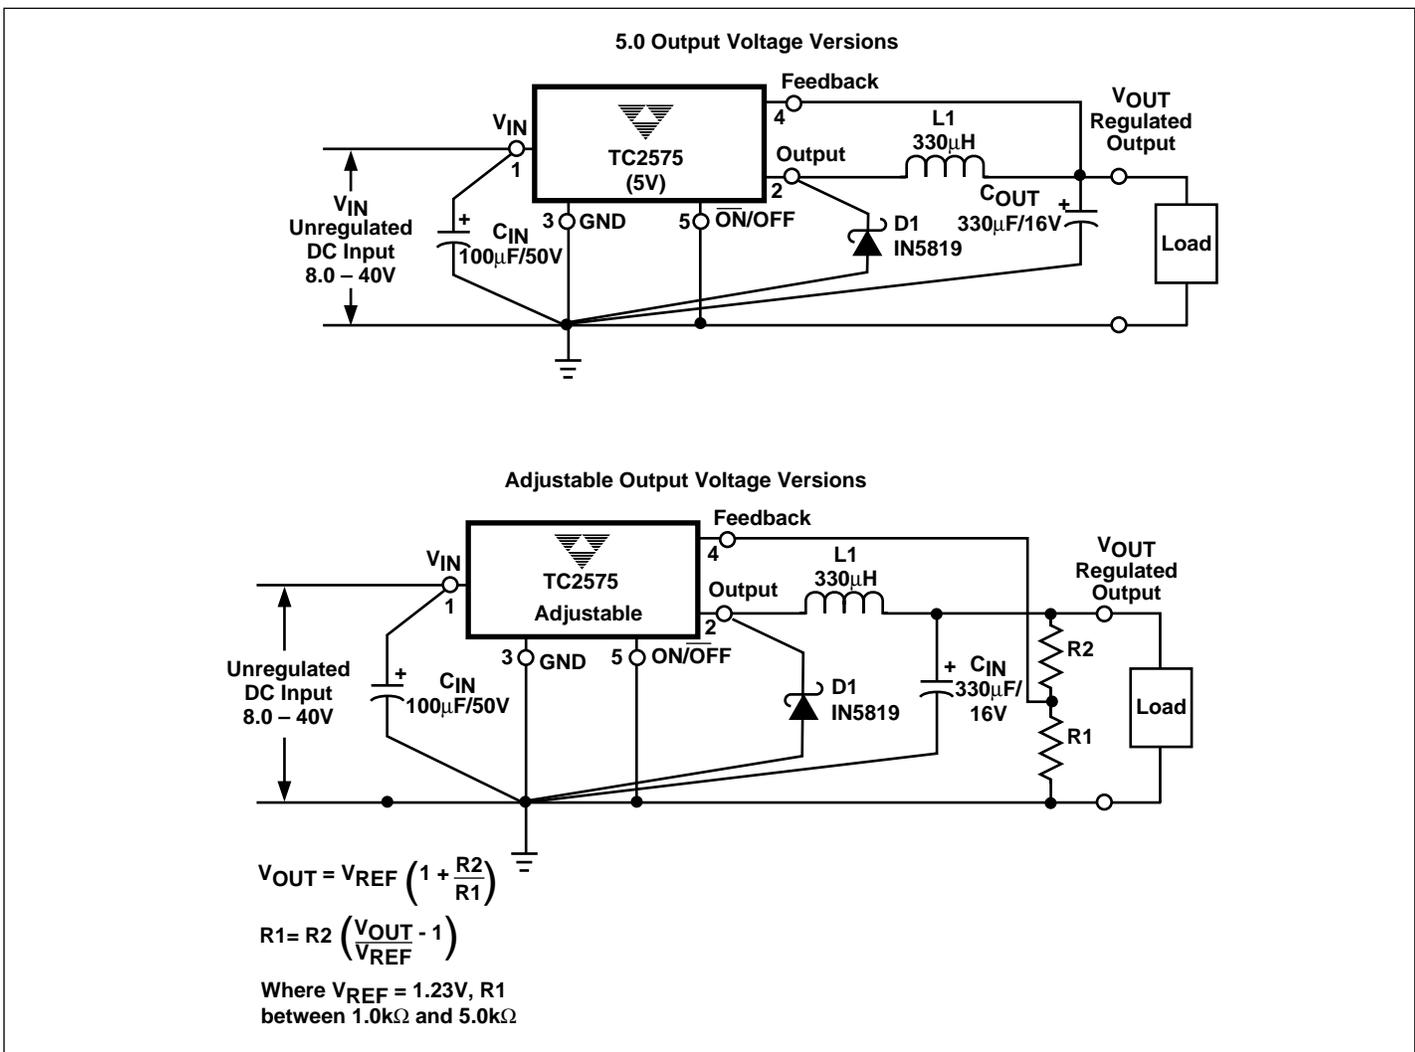

Figure 2. Typical Test Circuit
TC2575-3.3 [(Note 1) Test Circuit Figure 2]
TC2575-5 [(Note 1) Test Circuit Figure 2]
TC2575-12 [(Note 1) Test Circuit Figure 2]
TC2575-Adjustable Version [(Note 1) Test Circuit Figure 2]
- NOTES:** 1. External components such as the catch diode, inductor, input and output capacitors can affect the switching regulator system performance. When the TC2575 is used as shown in the Figure 2 test circuit, the system performance will be as shown in the system parameters section of the Electrical Characteristics.
As in any switching regulator, the layout of the printed circuit board is very important. Rapidly switching currents associated with wiring inductance, stray capacitance and parasitic inductance of the printed circuit board traces can generate voltage transients which can generate electromagnetic interferences (EMI) and affect the desired operation. As indicated in the Figure 2, to minimize inductance and ground loops, the length of the leads indicated by heavy lines should be kept as short as possible.
<p>1. Programming Output Voltage</p> <p>To select the right programming resistor R1 and R2 value (see Figure 2) use the following formula:</p> $V_{OUT} = V_{REF} \left( 1.0 + \frac{R2}{R1} \right) \text{ where } V_{REF} = 1.23V$ <p>Resistor R1 can be between 1.0kΩ and 5.0kΩ. (For best temperature coefficient and stability with time, use 1% metal film resistors).</p> $R2 = R1 \left( \frac{V_{OUT}}{V_{REF}} - 1 \right)$	<p>1. Programming Output Voltage (selecting R1 and R2)</p> <p>Select R1 and R2</p> $V_{OUT} = 1.23 \left( 1.0 + \frac{R2}{R1} \right) \text{ Select } R1 = 1.8k\Omega$ $R2 = R1 \left( \frac{V_{OUT}}{V_{REF}} - 1.0 \right) = 1.08k \left( \frac{8.0V}{1.23V} - 1 \right)$ <p>R1 = 9.91kΩ, choose a 9.88kΩ metal film resistor.</p>